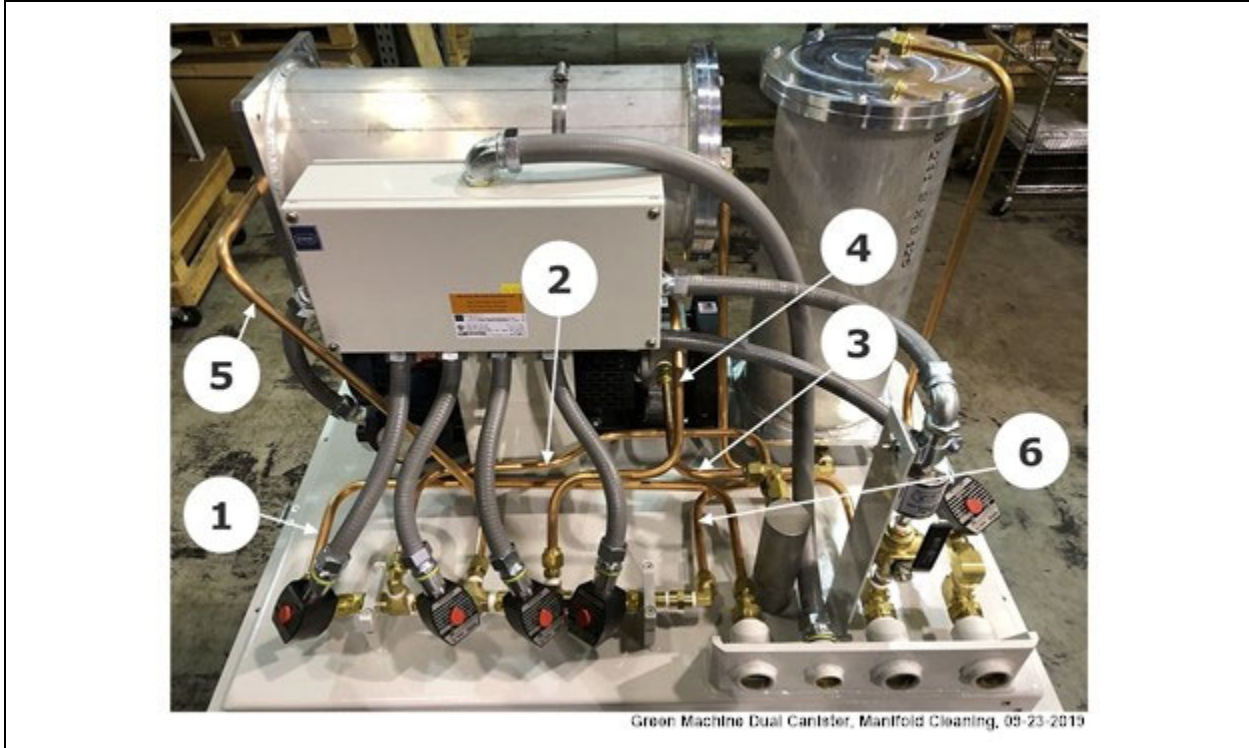

Figure 9-20: Items Associated with Cleaning the GREEN MACHINE Tubing and Manifold
5. Remove tubes 1, 2, 3, 4, 5, and 6 from the GREEN MACHINE. **See Figures 9-20 & 9-21.**
4. Reinstall the 6 tubes. **See Figures 9-20 and 9-21.**